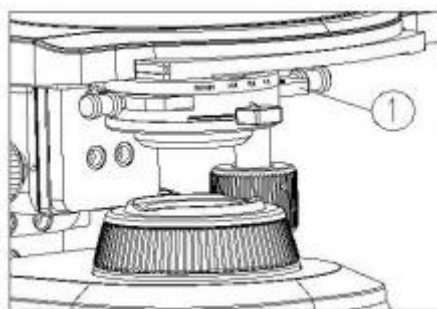

Figure 18
- 6) For fluorescence slide observation, slide the fluorescence flashboard (①) slightly to the left. A "Dida" sound will indicate that it has reached the fluorescence observation position, and the transmission illumination path will be fully blocked. Simultaneously, turn off the light adjustment knob (to set the coding switch to the minimum (0%). (See Fig. 18)